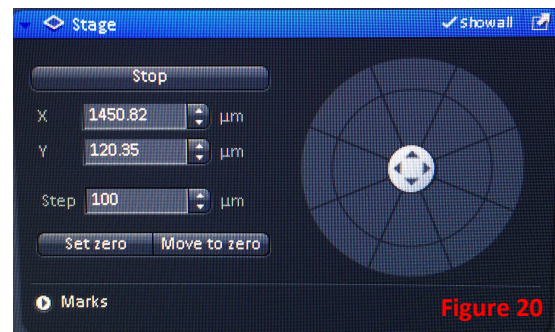

Figure 20
- d. There is also a Stage menu (below the Channels window, see figure 20). When you open it, you get a controller that you can use to move the stage in any directions. (For moving the stage small distances, it is easier to use the joystick control set on slow — the movement is smaller.)